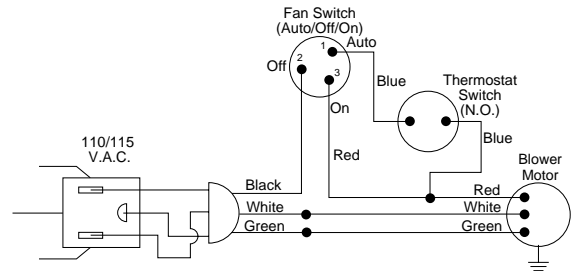

Figure 18 - Wiring Diagram For Blower Accessory Built-In Installation
3. A licensed electrician must follow the wiring diagram to connect incoming electrical supply to fan kit wiring harness (see Figure 18).